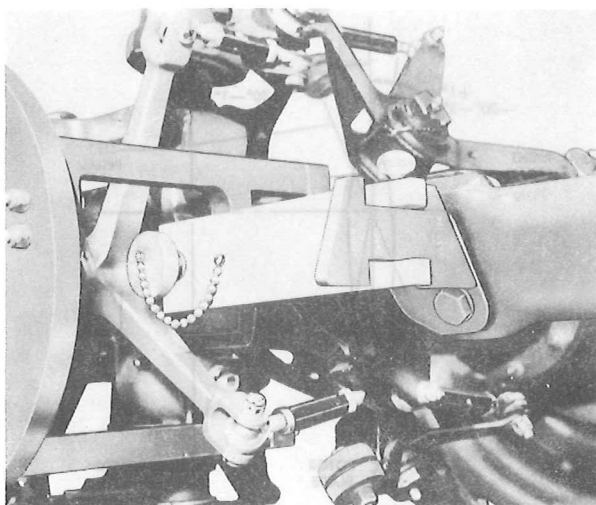

Figure 7-37. Setting Blade Pitch
n. Mount rigging protractor assembly, part No. S1670-10566, on blade restrainer, part No. S1670-10650-13, at aft blade with that blade in a horizontal position. Install slide in slot of rigging protractor with slide marked 30° LEFT facing blade hub and engraved side of slide facing outboard. Move slide against blade hub and tighten thumbscrew. (See figure 7-37.)
| Note After required rpm has been established in autorotation, following check is to be made on all helicopters equipped with ASE to determine collective pitch ASE equipment override. Autorotation (low pitch check) | 1. Gross weight (See figure 7-37) 2. 137.7 inches cg (neutral) 3. 60 knots forward speed 4. ASE engaged 5. BAR ALT engaged 6. Full low pitch | See figure 7-37 <div style="border: 1px solid black; padding: 5px; text-align: center;">CAUTION</div> As soon as autorotative rpm has been achieved, disengage BAR ALT as unnecessary wear to BAR ALT clutch could result. | Check low pitch stick stops. |